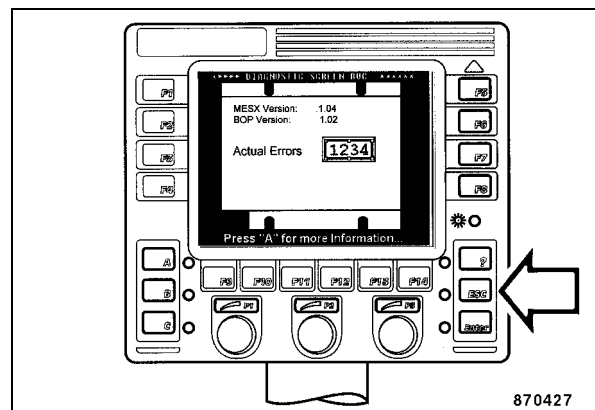

Fig. 201
- Press key "ESC" (Fig. 201) to leave the screen page with the actual fault codes.